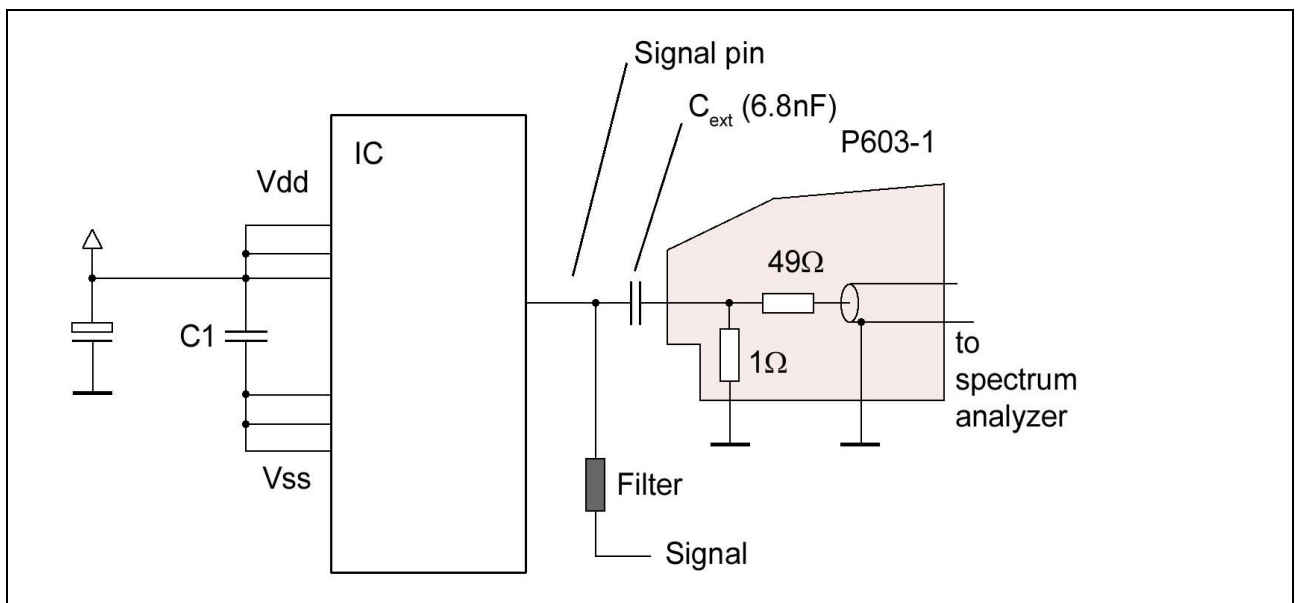

Figure 9: P603-1, current measurement on a signal pin while this is in operation.
5. Current measurement (P603-1) on a signal pin while this is in operation (with external capacity), **Figure 9**